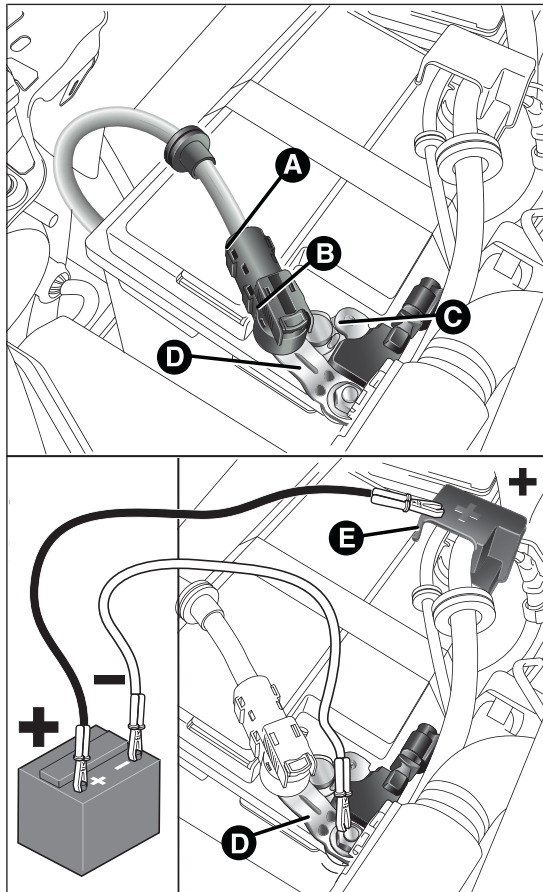

fig. 158
- disconnect the connector A fig. 158 (pressing the button B) from the sensor C monitoring the battery conditions, on the negative pole D of the battery;
- after having disconnected the battery charger, reconnect connector A fig. 158 to the sensor C as shown.